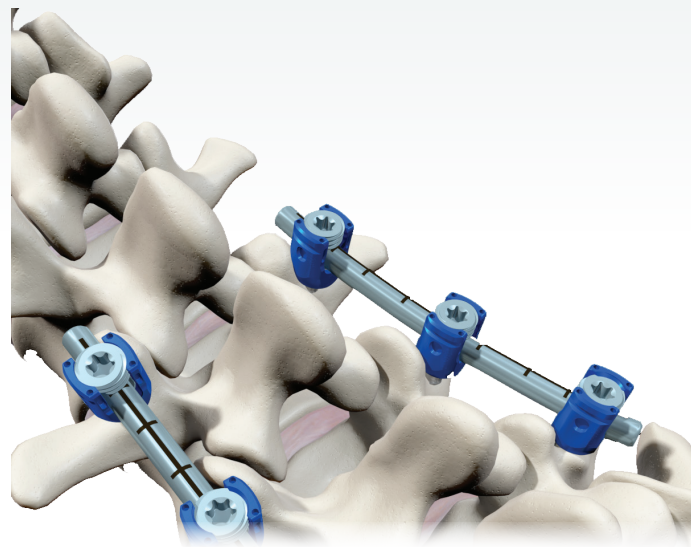

Figure 11
- Supplemental internal fixation, such as the Cypher MIS Screw System should be used for additional stabilization (Figure 11).